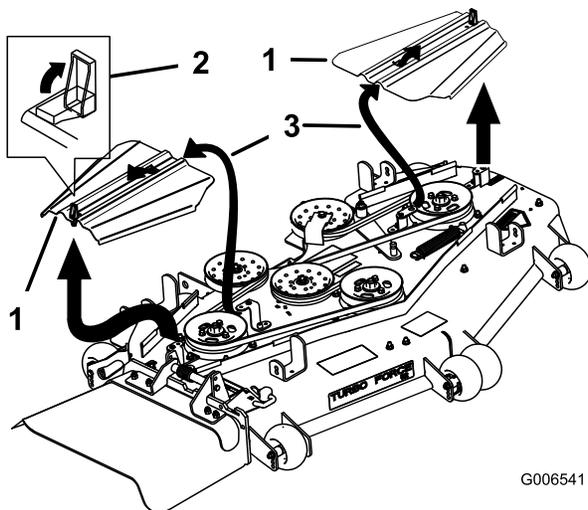

Figure 87
5. Remove the belt covers (Figure 87).